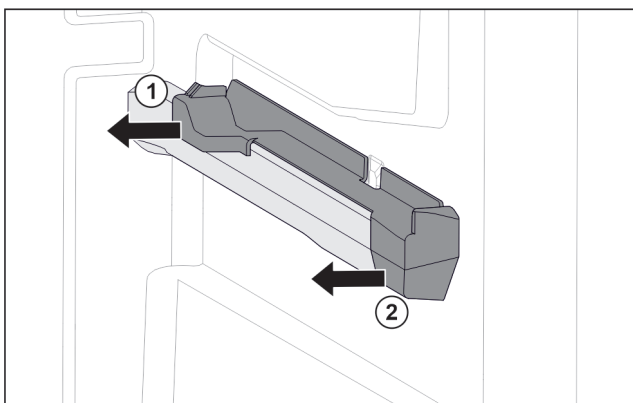

Fig. 108 Attachment on the right moulded rib
- ▶ Pull off attachment at the back sideways. Fig. 108 (1)
- ▶ Pull off attachment at the front sideways. Fig. 108 (2)